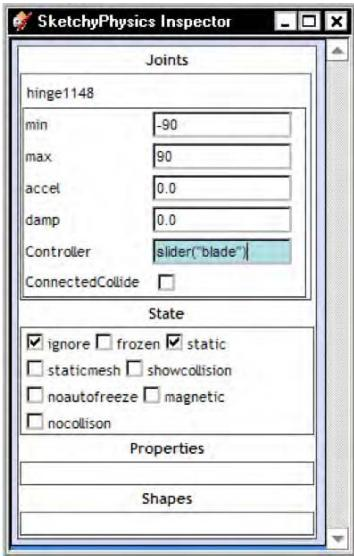

Figure 10–10. SketchyPhysics Inspector dialog box
1. To open the UI module, select the Show UI from the SketchyPhysics toolbar. Select the Hinge joint in the model. The UI module then presents the properties of the hinge (Figure 10–10).